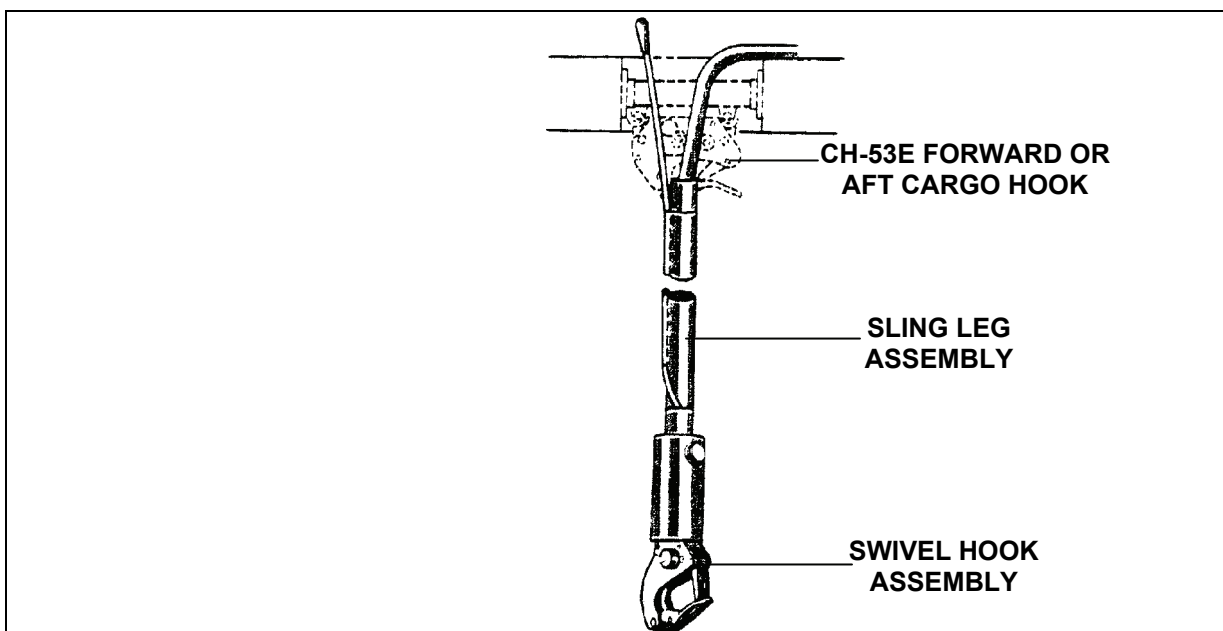

Figure 5-8. H-53E Dual-Point Pendant System
- **Aircraft Position.** The hookup teams must constantly be aware of the position of the aircraft and cargo hook. It is difficult for the aircrew member to watch both hookup teams as the aircraft hovers over the load. The pendant system on the H-53E (Figure 5-8) enhances hookup team safety by increasing load separation. The cargo reach pendant enhances hookup team safety by increasing load separation on the CH-47.